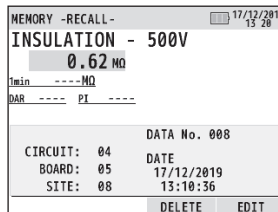

Fig.16-5
- (3) The selected data will be displayed. (Fig. 16-5)